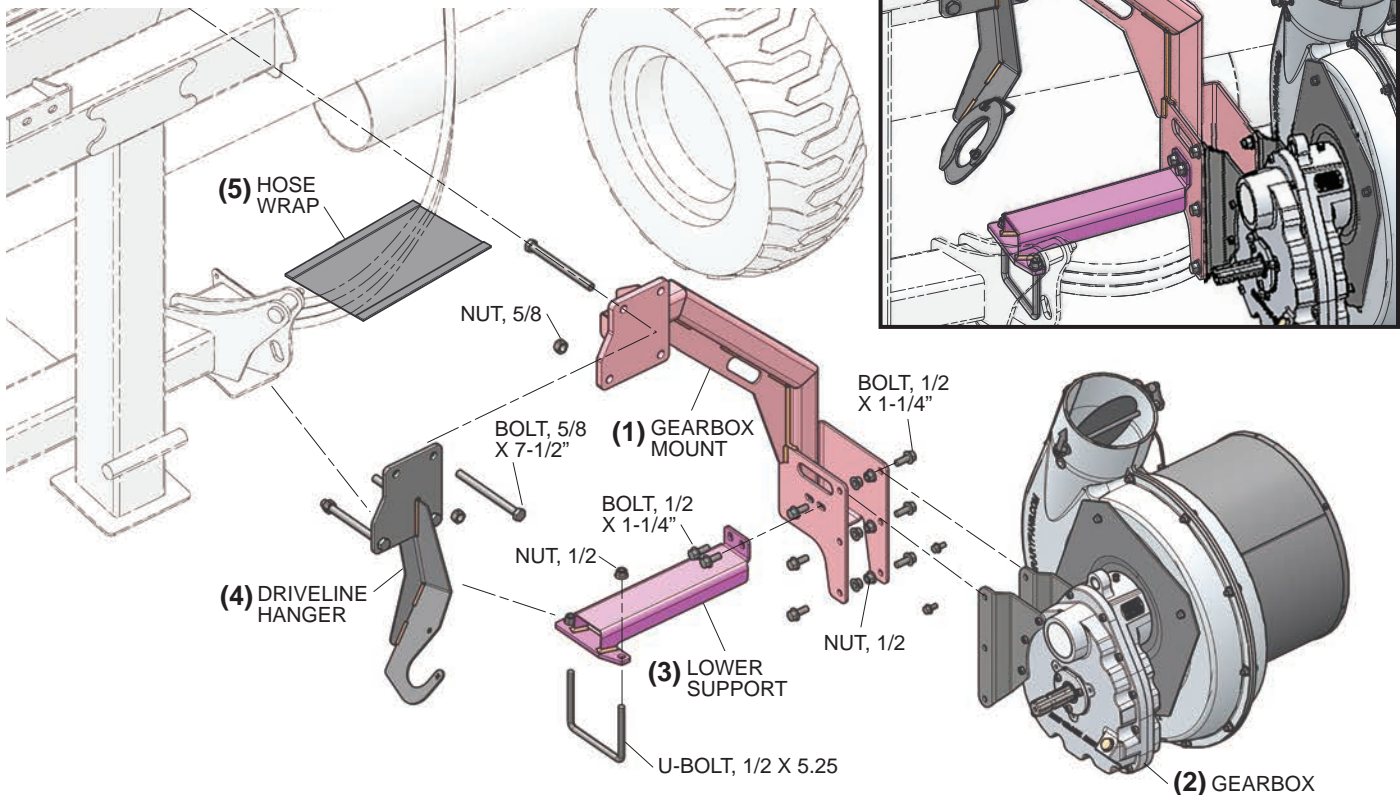

Figure 1: Gearbox/fan mount kit
Refer to Figure 1 for the following installation.
1. Clamp the gearbox mount (1), and the driveline hanger (4) around the OEM horizontal header beam as shown in (Figure 1).
2. Fasten the lower support (3) to the gearbox mount (1) with two 1/2 X 1-1/4 flange bolts and nuts. fasten the other end of the support to the OEM header beam with a 1/2" U-bolt and two nuts as shown in Figure 1.
4. Install Hose Wrap (5) around OEM hoses.